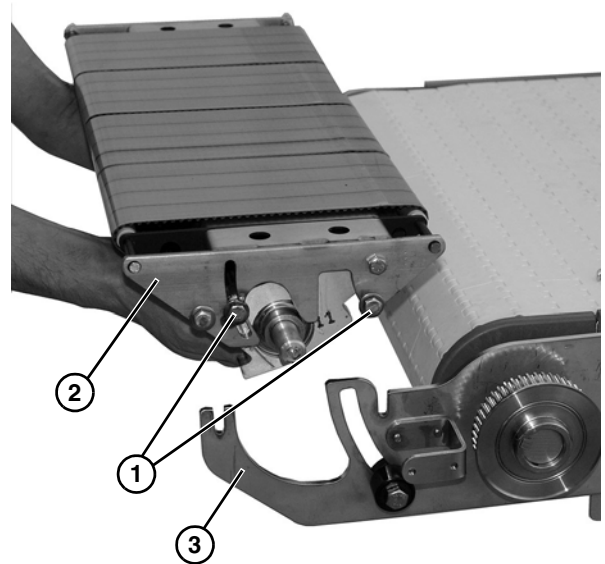

Figure 25
2. Loosen two flanged screws (Figure 25, item 1).